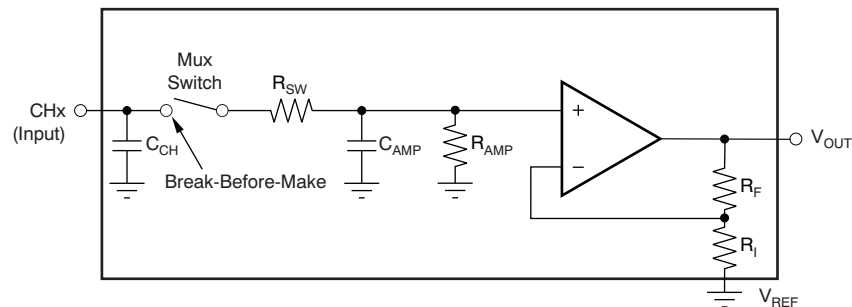

Figure 1. Equivalent Input Circuit
- (1) Gain error is a function of the input voltage. Gain error outside of the range ($\text{GND} + 85\text{mV} \leq V_{OUT} \leq DV_{DD} - 85\text{mV}$) increases to 0.5% (typical).
- (2) Input voltages beyond this range must be current limited to $< |10\text{mA}|$ through the input protection diodes on each channel to prevent permanent destruction of the device.
- (3) See Figure 1.
- (4) Total V_{OUT} error must be computed using input offset voltage error multiplied by gain. Includes op amp $G = 1$ error.
- (5) Maximum specification limitation limited by final test time and capability.